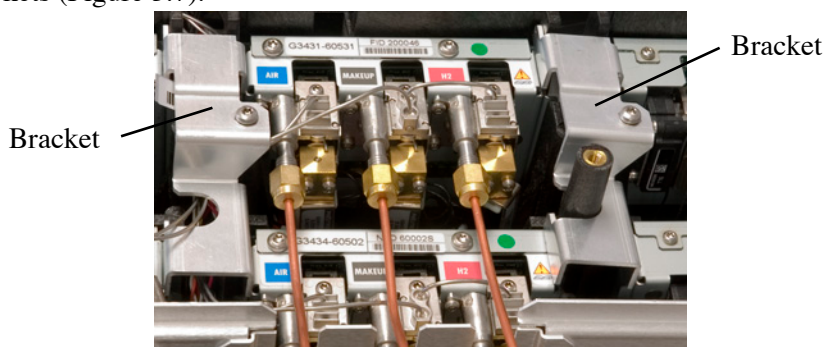

Figure 3.7. Locating the EPC Module Brackets
1. Remove the EPC module bracket by loosening the captive screws and lifting off the brackets (Figure 3.7).